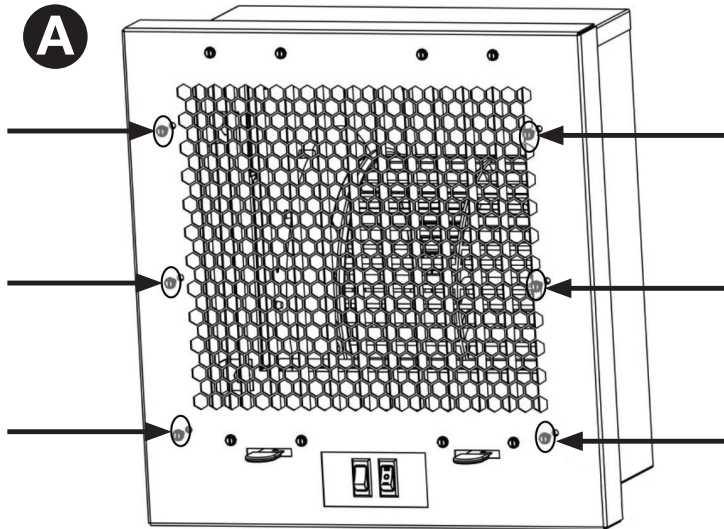

Fig. 2 - Output Grille Removal
- Remove the six screws on the sides of the screen (Fig. 2).